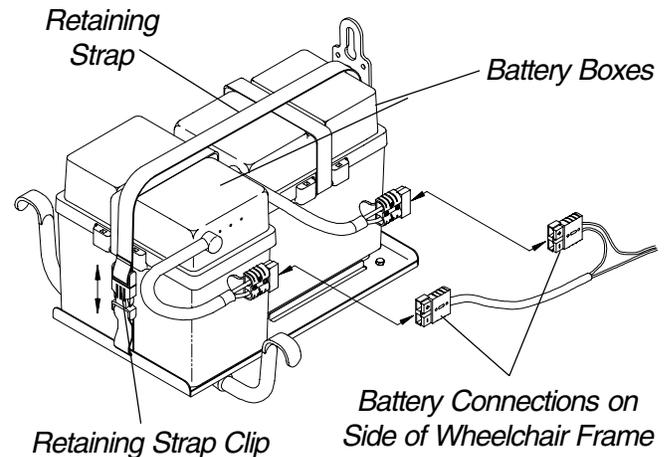

FIGURE 6 - INSTALLING/REMOVING BATTERY BOXES
**INSTALLING/REMOVING BATTERY BOXES (FIGURE 6)**